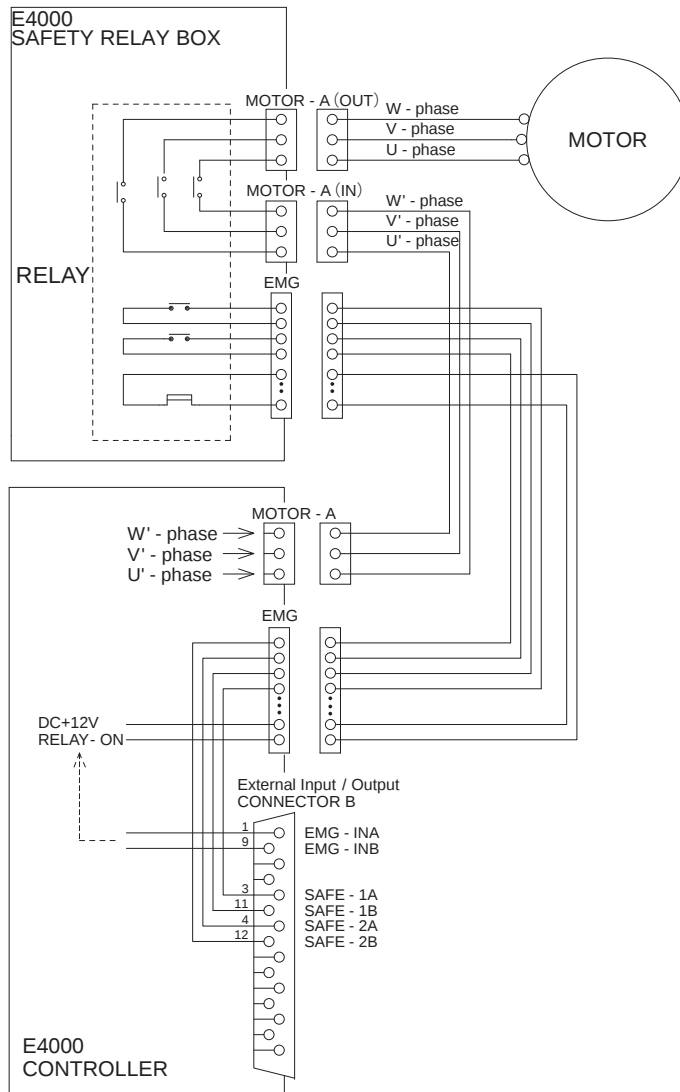

Fig. 35
③ Safety Relay Signal (Pin No. 3 - No. 11, No. 4 - No. 12)
- If the (NO) Normally Open contacts of the Safety Relay are welded together by an over load or short circuit the (NC) Normally Closed contacts separation are maintained with more than 0.5mm spacing by the relay's recoil mechanism.
- Applied Voltage (V) $\leq$ DC+30V
- Refer to Fig. 35 for the connection diagram.